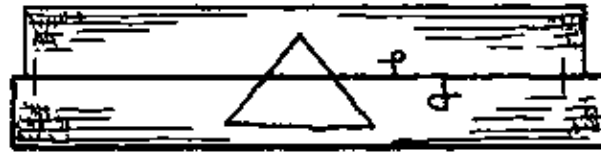

Fig. 2
– Now put the inside edges of the horizontal members together, mark the length of the members and put the triangular mark as shown in Fig. 2. The triangle always should point up.